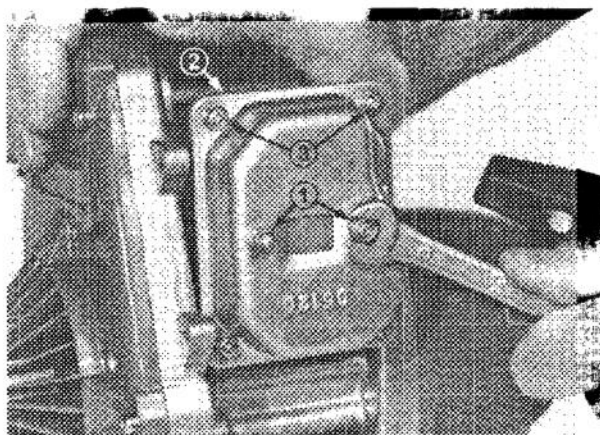

Figure 36
2. Remove and discard locknuts securing muffler assembly to engine and remove muffler (Fig. 36).
3. Remove muffler screws securing muffler lid to muffler body and separate the two components (Fig. 36).
7. Make sure the muffler gasket is still useable and install muffler. Use two new locknuts to secure muffler to engine (Fig. 36).